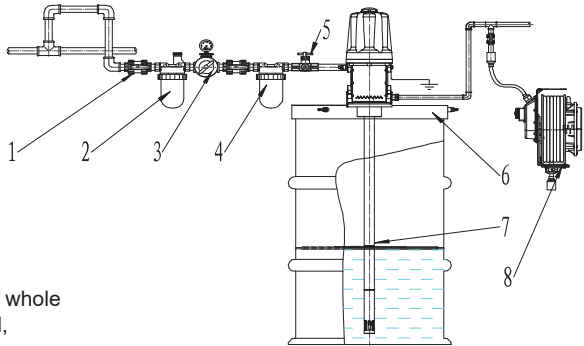

Fig.3: Oil supply system installation
Typical installation refers to Fig.3:
- Install a pump on drum cover (See fig.3 part 6), and then to barrel.
- On the main line of air compressor, connect bleed-type master air valves which controls on and off air motor. (See fig.3 part 1)
- Install an air line filter. (See fig.3 part 2) to remove harmful dirt and contaminants from your compressed air supply.
- Install the air regulator to control pump speed and pressure. (See fig.3 part 3).
- Install an air line regulator for automatic air motor lubrication. (See fig.3 part 4).
- Install a pump run-away valve to shut off the air to the pump if the pump accelerates beyond the pre-adjusted setting. A pump that runs too fast can be seriously damaged. (See fig.3 part 5).